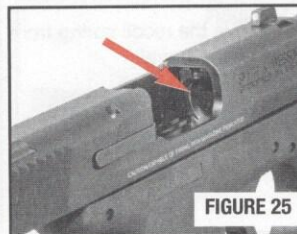

FIGURE 25
- Make certain that the chamber is clear (FIGURE 25).